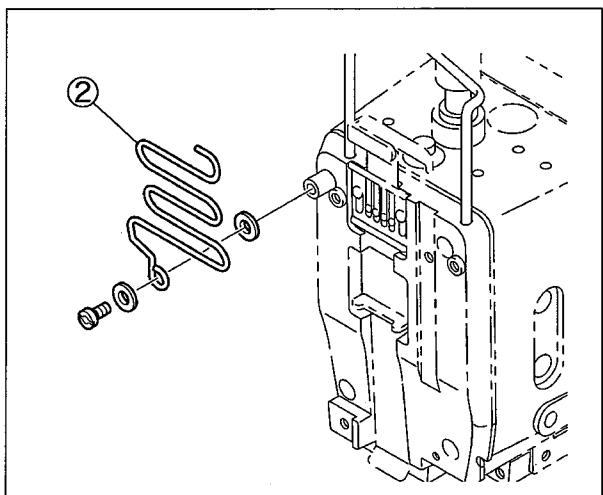

Fig. 2
Install the tape guide(upper)② onto the head cover by referring to Fig. 2.